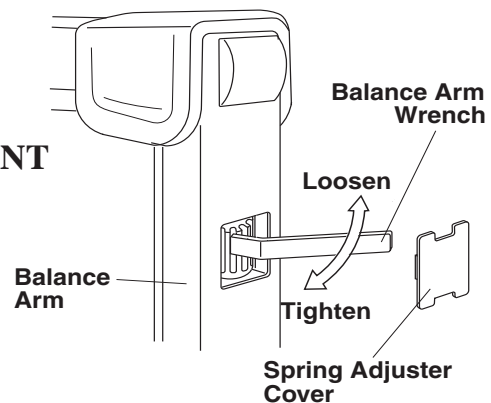

Fig.4-2 Balance Arm Tension Adjustment
2. If either balance arm drifts higher or lower from the set position, remove the spring adjuster cover and adjust the balance arm spring tension with the balance arm wrench supplied. (Fig.4-2)